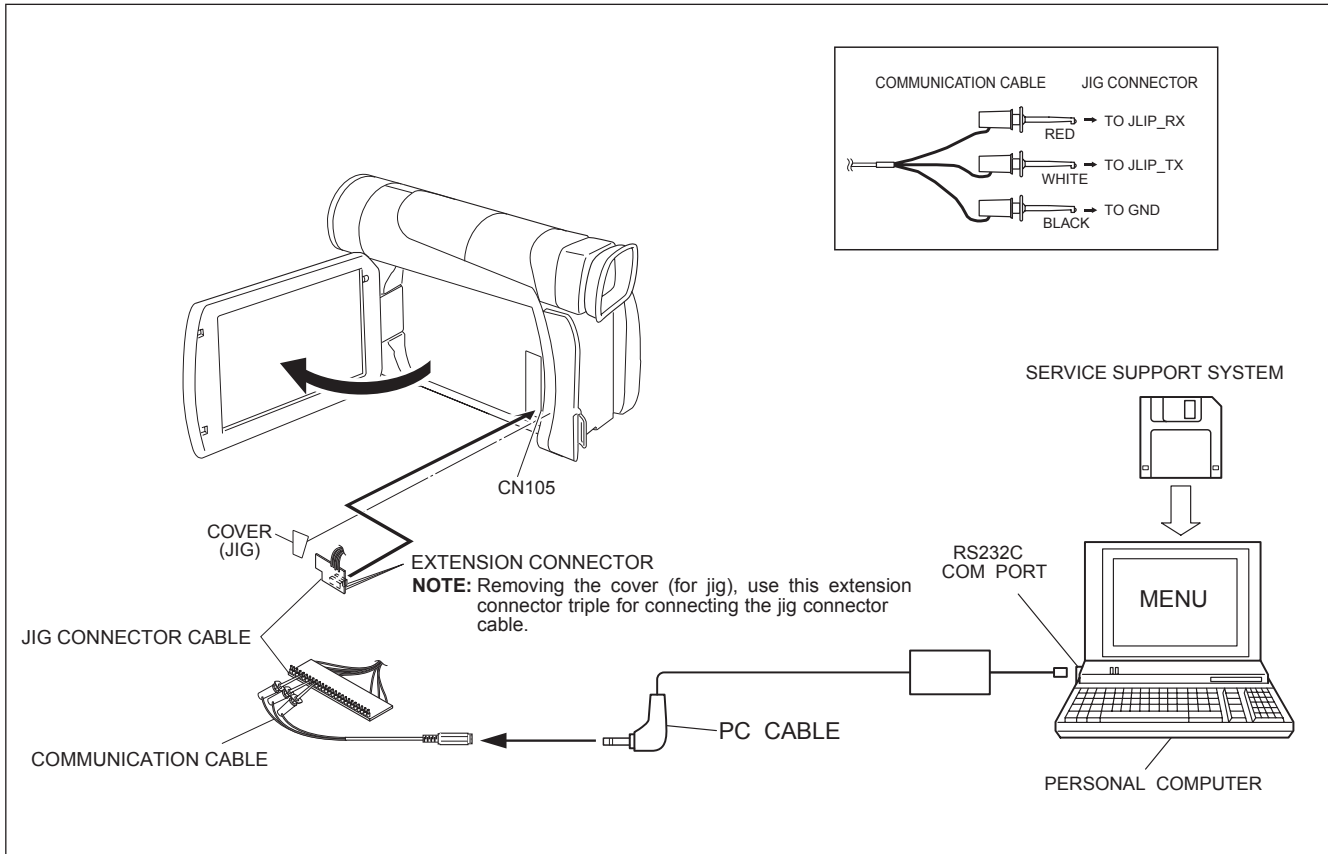

Fig.3-5-1
- Electrical adjustment is performed by using PERSONAL COMPUTER. As for the connection of cables, see Fig. 3-5-1. Read README.TXT file to use the software for SERVICE SUPPORT SYSTEM properly.